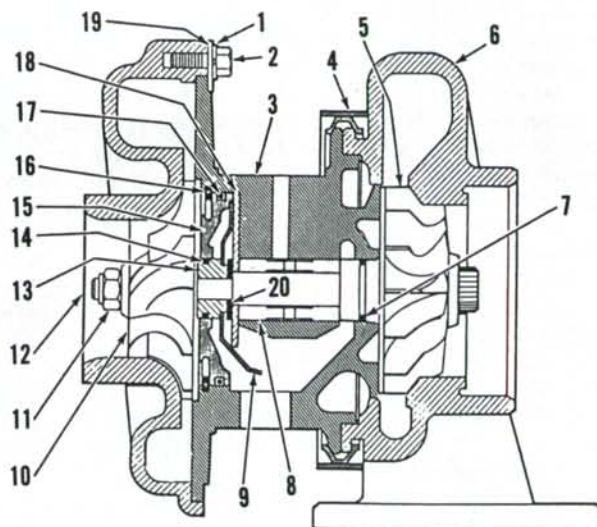

Fig. 103—Sectional view of Schwitzer turbocharger showing component parts and their relative positions.
129. OVERHAUL SCHWITZER TURBOCHARGER. Remove turbocharger as outlined in paragraph 126. Mark compressor cover, bearing housing and turbine housing for reassembly. Clamp turbocharger mounting flange (exhaust inlet) in vise and remove cap screws (2—Fig. 103), lockwashers (1) and clamp plates (19). Remove compressor cover (12). Remove nut from clamp ring (4), expand clamp ring and remove bearing housing assembly from turbine housing (6).
Remove locknut (11—Fig. 103) and slip compressor wheel (10) from end of shaft. Withdraw turbine wheel and